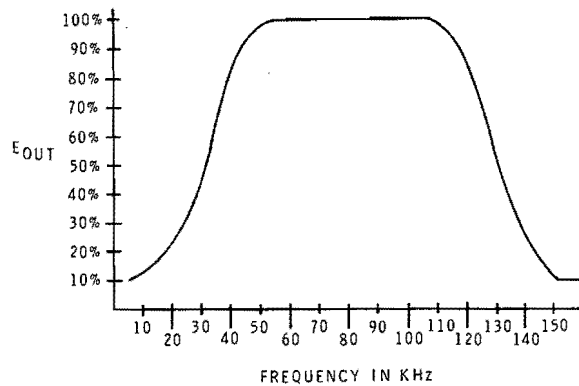

Figure 2-78
12. The response curve for a tuned RF amplifier is shown in Figure 2-78. This circuit has a bandwidth of: